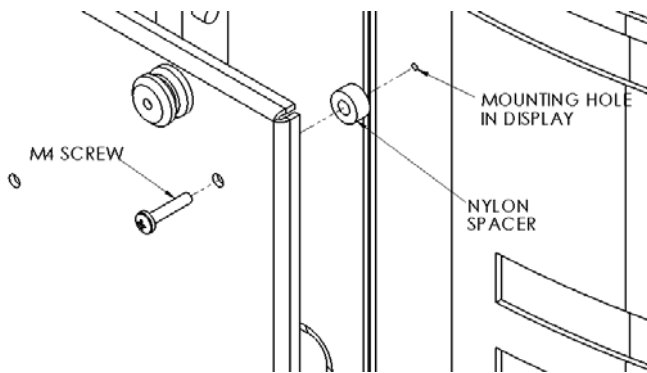
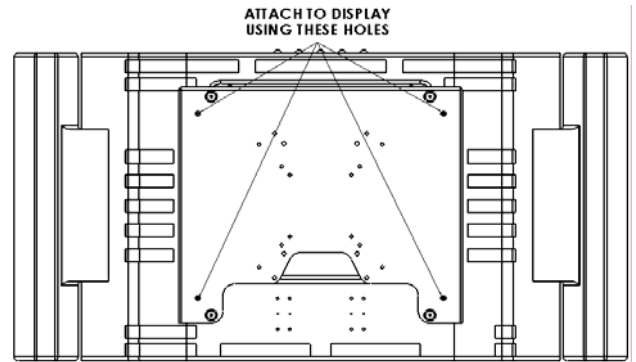

Figure 4
Figure 5
- Place Nylon spacers on mounting holes, aligning hole pattern on brackets with pattern on back of the display (see Figure 4 & Figure 5).